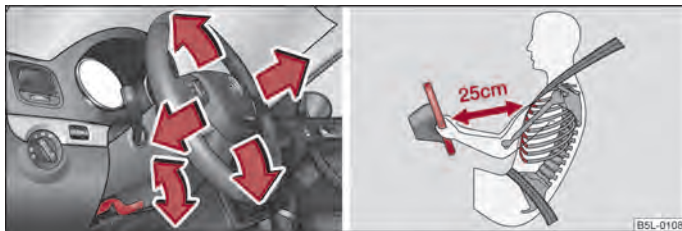

Fig. 95 Adjustable steering wheel: Lever next to the steering column/safe distance to the steering wheel
- Pull the lever below the steering wheel down ⇒ fig. 95 - left ⇒ ⚠.
- The driver must maintain a distance of at least 25 cm to the steering wheel ⇒ fig. 95 - right. Not maintaining this minimum distance will mean that the air-bag system will not be able to properly protect you - hazard!